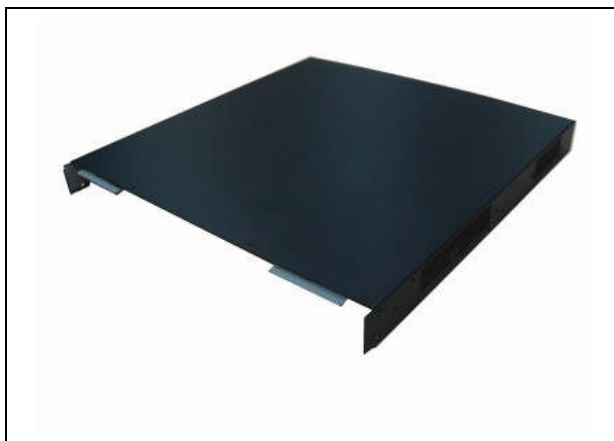

Fig. 2-4 The top lead
2. The top lead (**Fig. 2-4**) can be removed from the base stand (**Fig. 2-5**).